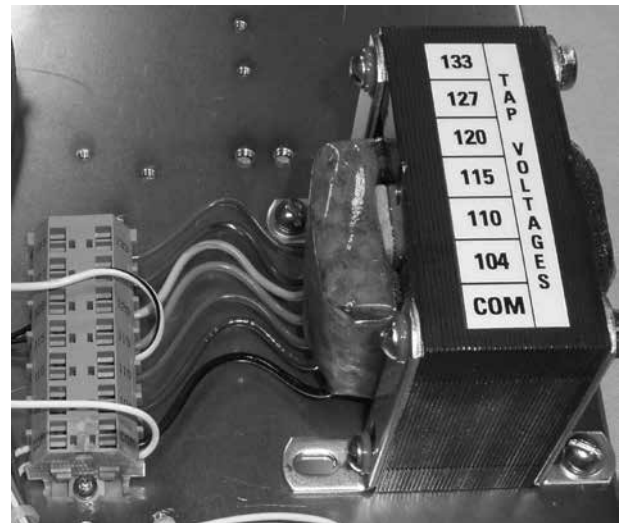

Figure 8. Connecting power leads to RCT terminal board
- A. When installing the communications board in a Cooper control box the RCT terminal board should be used to supply power. See Figure 8.